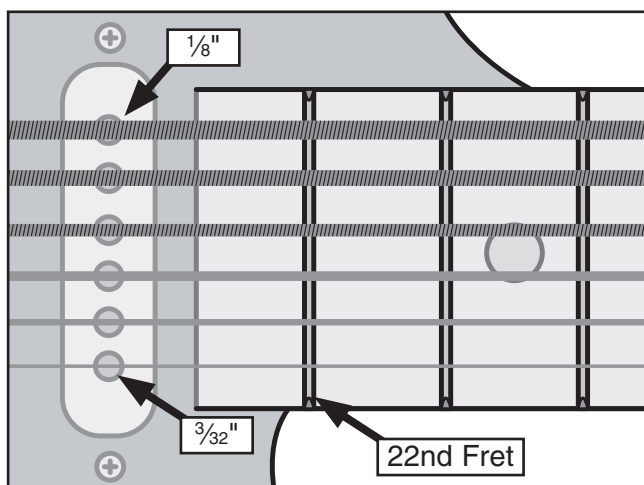

Figure 29. String heights over the pickup.
1. Measure the height of the 1st and 6th strings at the pickup while the strings are “fretted” at the 22nd fret (**Figure 29**).